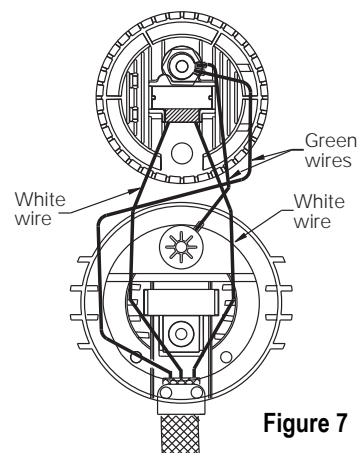

Figure 7
Step 13: Lay the leads in the bottom half of the cable clamp (located in the housing socket casting [1]), making sure that the fiberglass sleeving extends slightly past the screw holes in the housing socket casting. Install new sleeving if necessary. Then, route the wires as shown in Figure 7.